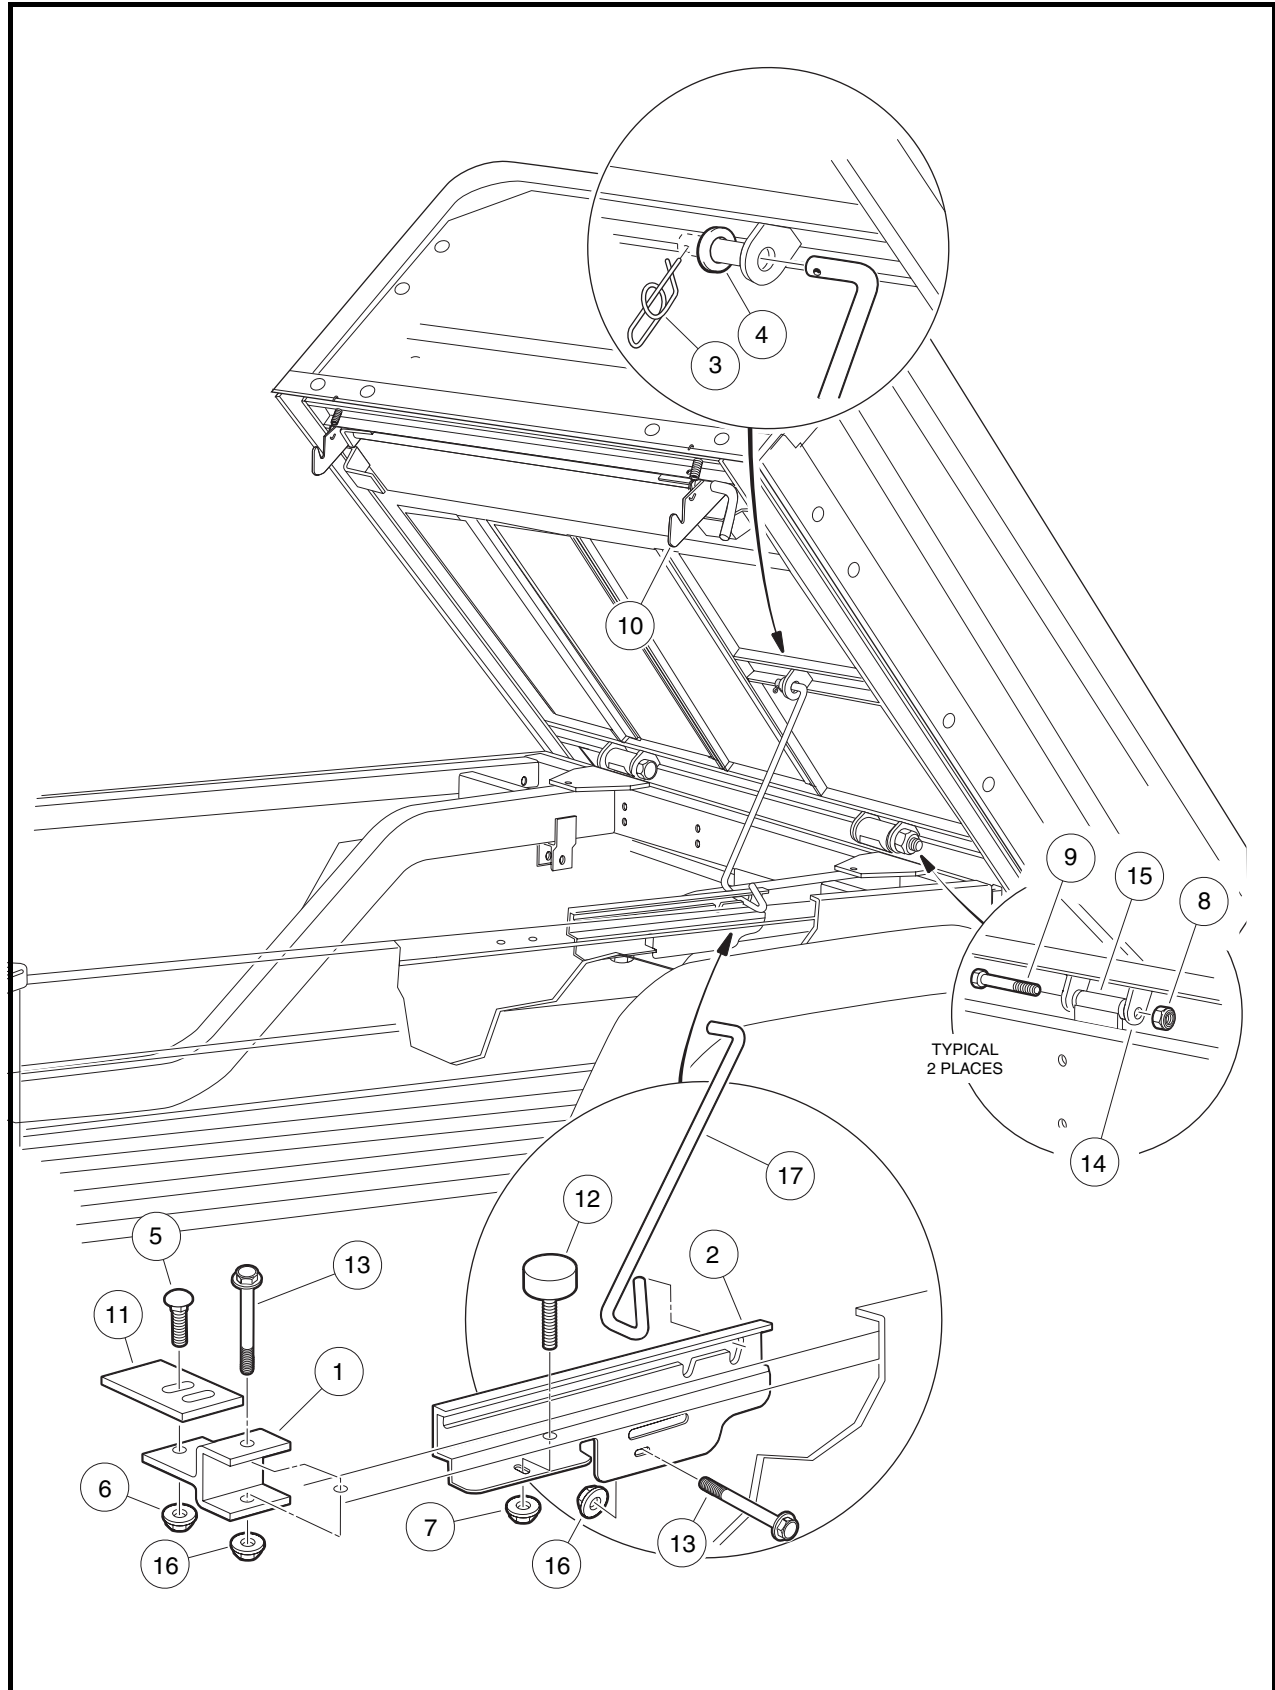

Figure 4-7 Cargo Bed
2. Hold the bed securely, and remove the rue pin (3) and flat washer (4) from the top end of the prop rod where the prop rod is attached to the bed.
3. Remove the prop rod (17) from the bed, and place the prop rod between the prop rod track (2) and the rear body panel. Lower the bed onto the vehicle frame (**Figure 4-7, Page 4-10**).
4. Remove the two nylon locknuts (8) from the cargo bed hinge and bolts (9).
5. Apply slight upward pressure on the rear of the bed to relieve pressure from the hinges. Remove the hinge bolts (9).
6. Raise the rear edge of the bed approximately 6 inches (15.2 cm), and pull the bed assembly toward the rear of the vehicle approximately 3 inches (7.6 cm) to release bed latch assembly (10) from the latch plate (11). Lift the bed from the vehicle.
1. Place the front edge of the bed onto the vehicle frame, and align the latches (10) with the latch plates (11) (**Figure 4-7, Page 4-10**).
2. Lower the rear edge of the bed onto the vehicle, and align the bed hinge brackets (14) with the frame hinge brackets (15).
3. Start the bolts (9) into both hinges. Use an alignment tool if necessary.
5. Install a nylon locknut (8) on each bolt (9), and tighten the hardware to 15 ft-lb (21 N·m).
6. Lift the bed from the bed latch and, with the prop rod in a slot notch, place the prop rod (17) in the bed mounting hole. Install a flat washer (4) and a new rue pin (3) onto the prop rod.